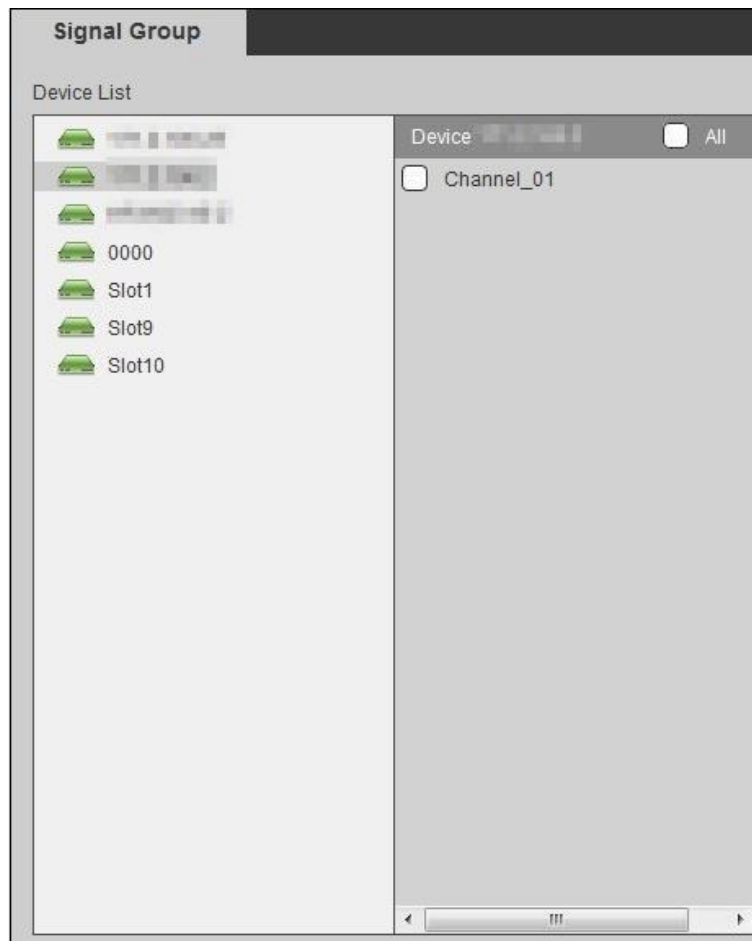

Figure 4-91
1. Select one device in "Device List". "Device Name" displays all signals of the device, as shown in Figure 4-91.